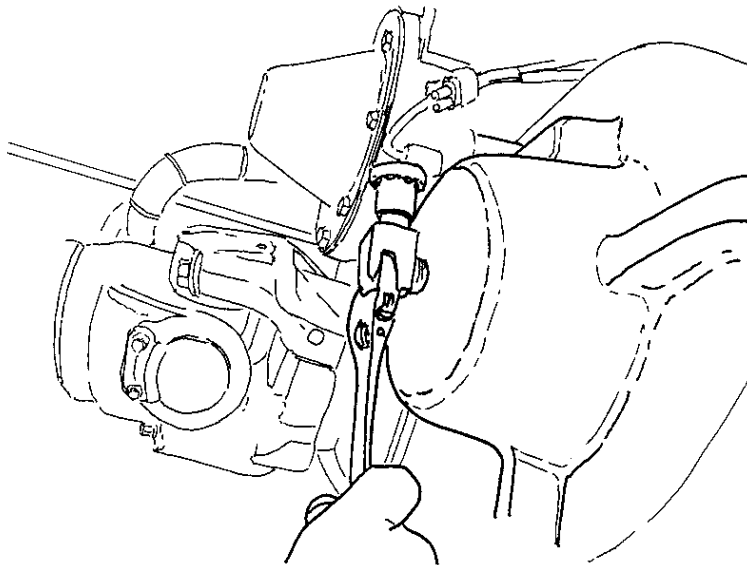

Figure 10 Install Breather
9. Install the breather and elbow with thread sealant into the new hole. Tighten the breather to 20 to 25 Lbf-ft (27 to 34 Nm) making sure to position the breather in the vertical up position (Figure 10).